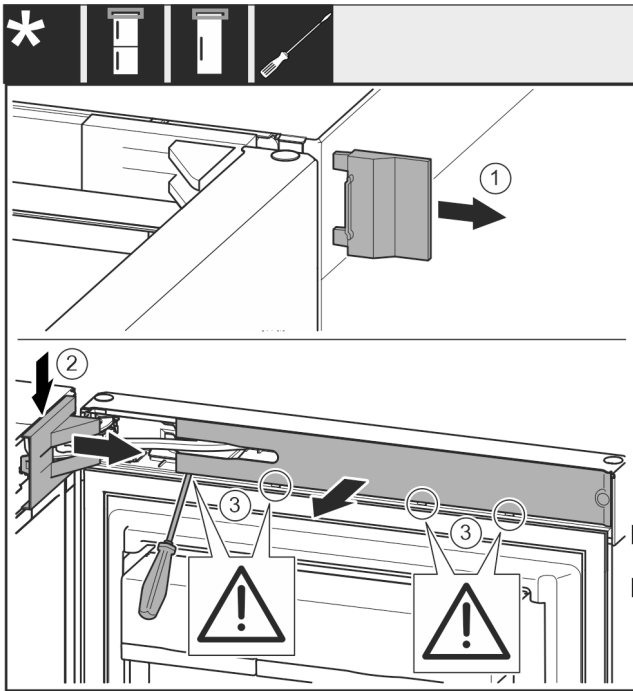

Fig. 8
- ▶ Remove cover Fig. 8 (1).
- ▶ Disengage and loosen the swap bearing block cover Fig. 8 (2).
- ▶ Remove the swap bearing block cover Fig. 8 (3).
- ▶ Use a slotted screwdriver to unlatch the trim Fig. 8 (3) and swing it to the side.